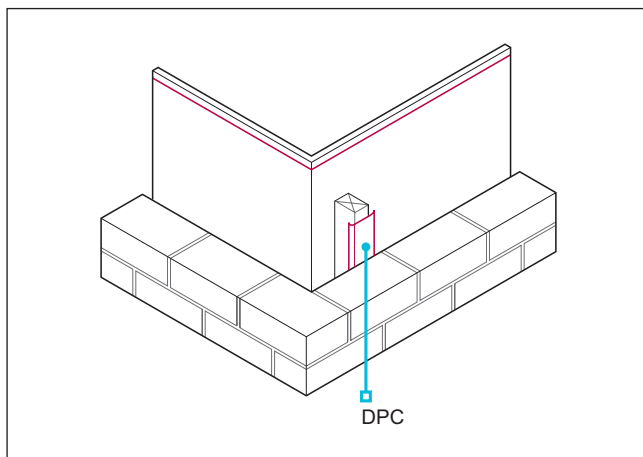

Figure 2 - Vertical timber cavity barrier
- Vertical timber cavity barriers - vertical timber cavity barriers should be protected from moisture with a DPC installed over the face in contact with the masonry cladding. See Figure 2.